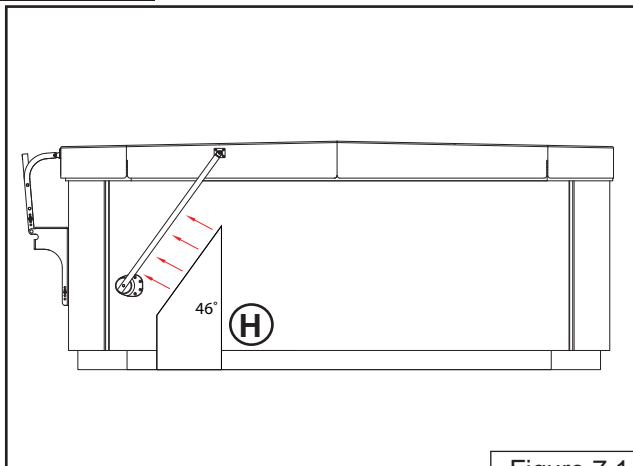

Figure 7.1
1. Locate the Cardboard Template (H) and place on ground below Side Arm Assembly (Figure 7.1).
2. Slide Template against Side Arm Assembly, making sure the entire angle of the Template touches the Side Arm Assembly (Figure 7.1).